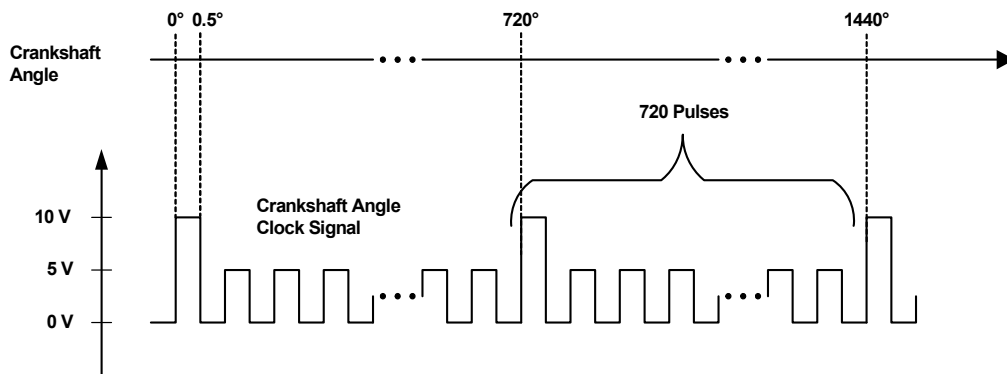

Fig. 10-8 Angle Clock Signal to Synchronize to 0° Camshaft and Calculate the Angle Position of the Engine
This information is determined by the ES1334.2 from the angle clock signal supplied on the front panel via the "SYNC" input. The angle clock signal (see Fig. 10-8) is generated by an ES1332.1 Arbitrary Signal Generator Board and makes it possible to synchronize to 0° camshaft and calculate the angle position of the engine.
- of the angle clock signal (see Fig. 10-8) or